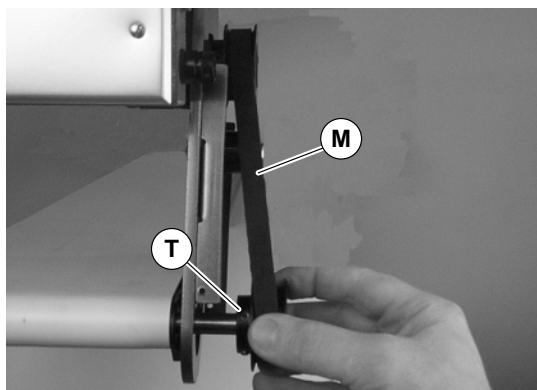

Figure 17
4. Remove timing belt (M of Figure 17).
NOTE: If timing belt does not slide over pulley flange, loosen driven pulley set screws (T of Figure 17) and remove pulley with belt (M). For re-installation, see steps 5 through 8 on page 5.